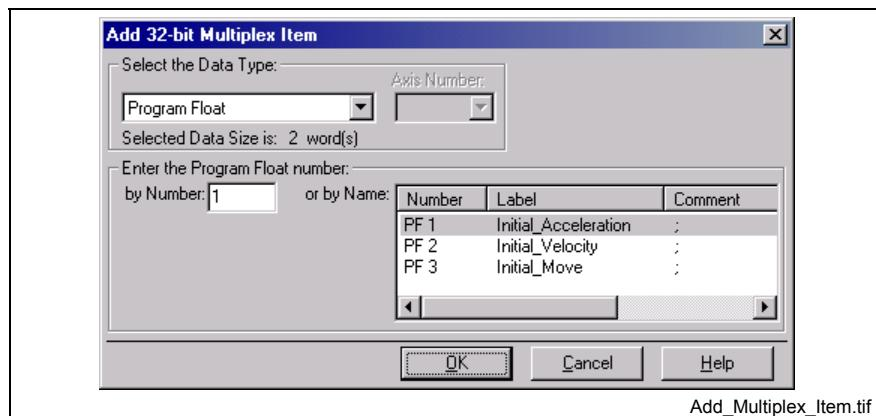

Fig. 7-169: Adding a Multiplex Item to the Container (32-bit example)
3. To add to the selected multiplex container, click No. The window in Fig. 7-169 below is an example for adding a 32-bit multiplex item.